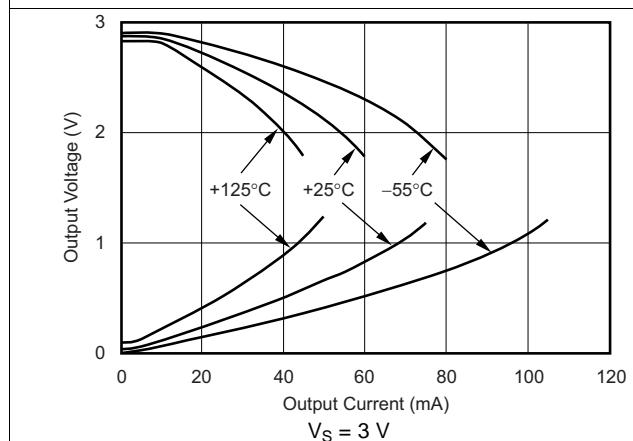
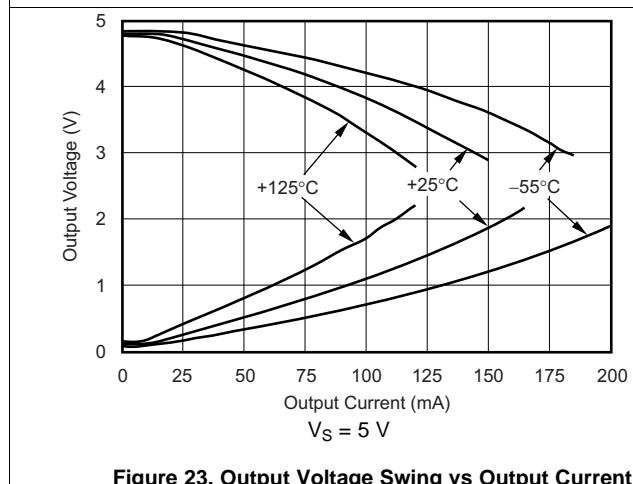
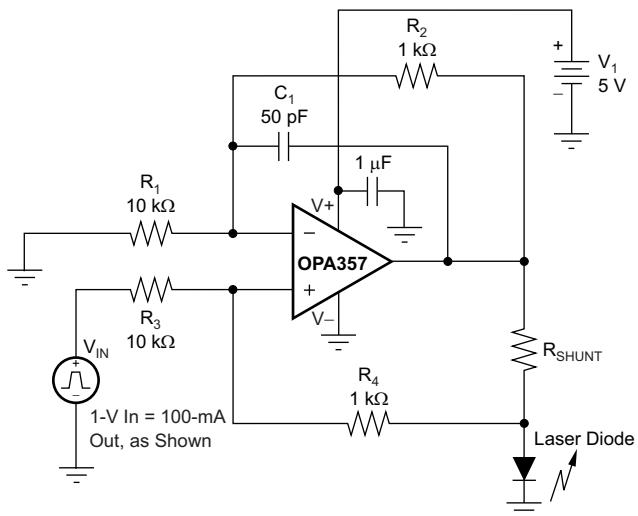
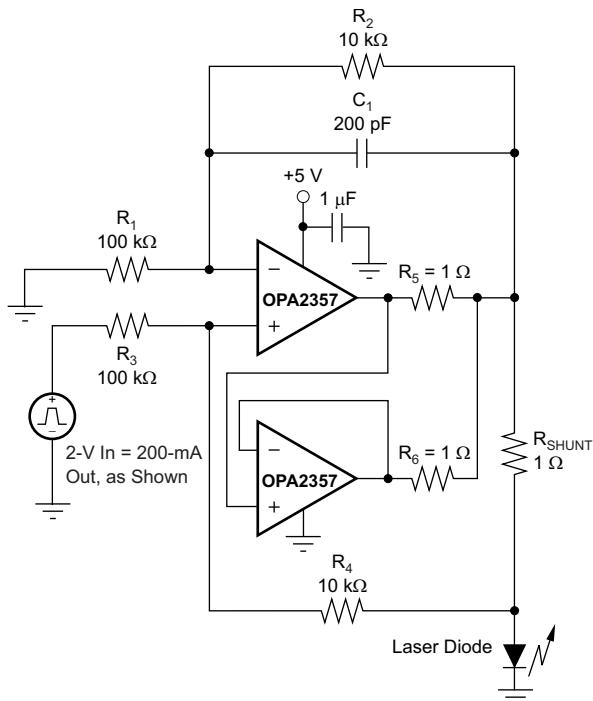

Figure 21. Output Voltage Swing vs Output Current
Figure 23. Output Voltage Swing vs Output Current
Figure 33. Laser Diode Driver
Figure 34. Parallel Operation
(1) See Figure 21 and Figure 23.
(2) Specified by design.
A class AB output stage with common-source transistors is used to achieve rail-to-rail output. For high-impedance loads (> 200 Ω), the output voltage swing is typically 100 mV from the supply rails. With 10- Ω loads, a useful output swing can be achieved while maintaining high open-loop gain; see Figure 21 and Figure 23.
The OPA357 output stage can supply a continuous output current of ± 100 mA and still provide approximately 2.7 V of output swing on a 5-V supply, as shown in Figure 33. For maximum reliability, TI recommends running a continuous DC current in excess of ± 100 mA; see Figure 21 and Figure 23. For supplying continuous output currents greater than ± 100 mA, the OPA357 can be operated in parallel as shown in Figure 34.